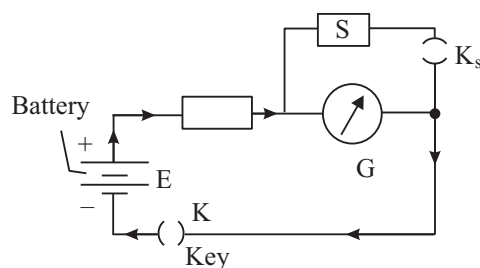

Fig. 29.1
For determination of galvanometer resistance G the circuit is connected as shown in Fig. 29.1 below.
Another important constant of a Galvanometer is I_g , **the full scale deflection current**. I_g is that much current- which deflects the Galvanometer pointer from O to maximum deflection on its scale conversion of a Galvanometer into a voltmeter or an ammeter we must know I_g also. To find the value of I_g again refer to Fig. 29.1. Let the EMF of the battery be E and the value of the resistance connected in series with the Galvanometer and battery be R . Then, the current I flow through the galvanometer which produces a deflection θ in it, is given
- (iv) Place the equipment as shown in Fig. 29.1 and connect them with pieces of DCC wire whose ends have been properly cleaned with sand paper. Take out 5 k ohm key from the resistance box R and insert key K . Adjust R so that the deflection in G is more than 20 (70% of number of divisions in the galvanometer scale) and divisible by 2, say 22.